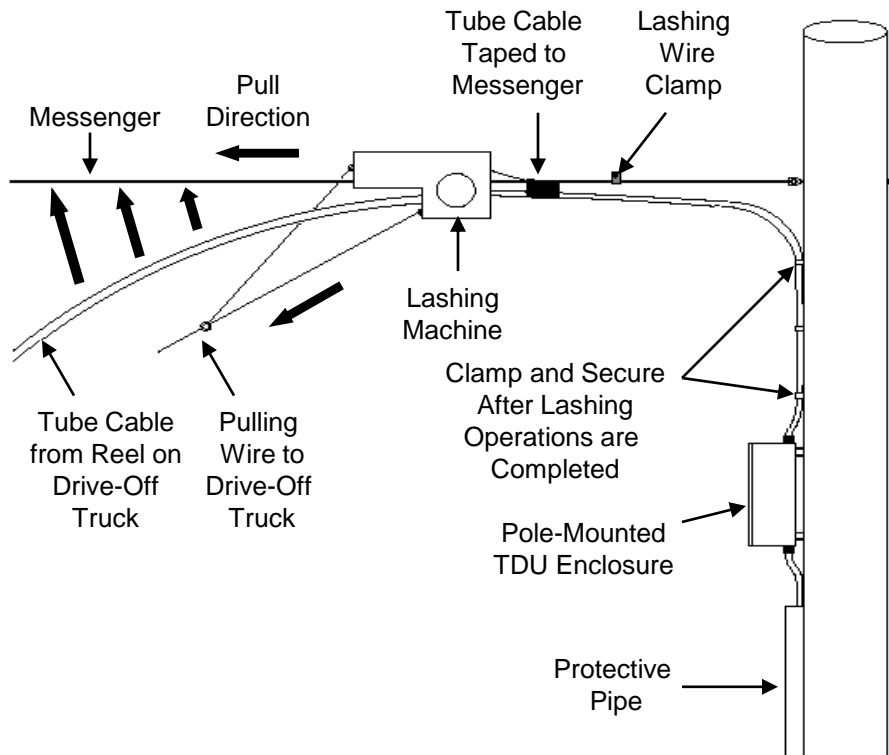

Figure 28
20.3 Tube cable can be installed with a drive-off method and lashed to new strand using a standard lashing machine and telecommunications standard 430 grade lashing wire. **See Fig. 28.**